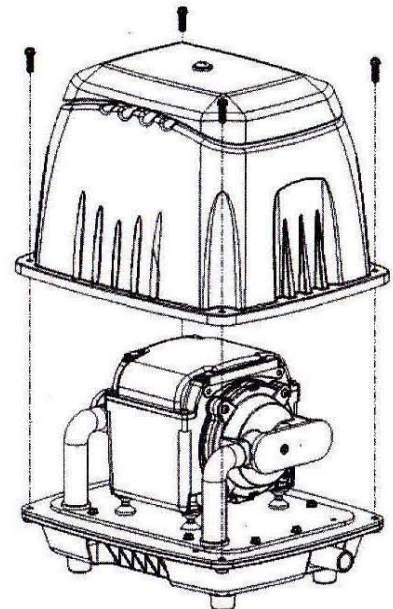

Figure 4
- A. Loosen the four screws around the aluminum upper cover, and take it off. (As shown in figure 4)